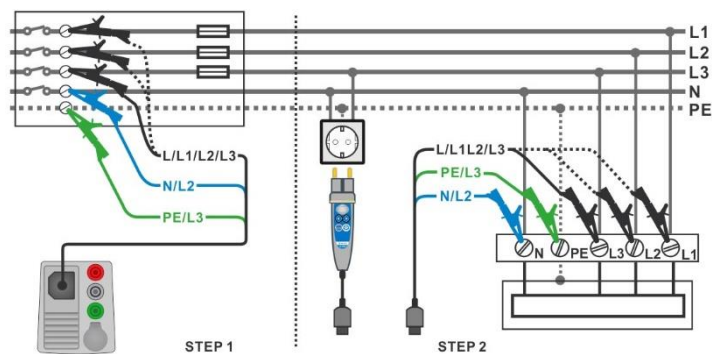

Figure 7.68: Voltage drop measurement – connection of Plug commander and 3-wire test lead
- ▶ Connect 3-wire test lead to the origin of electrical installation, see *Figure 7.68*.
- ▶ Connect 3-wire test lead or Plug commander to the tested points, see *Figure 7.68*.